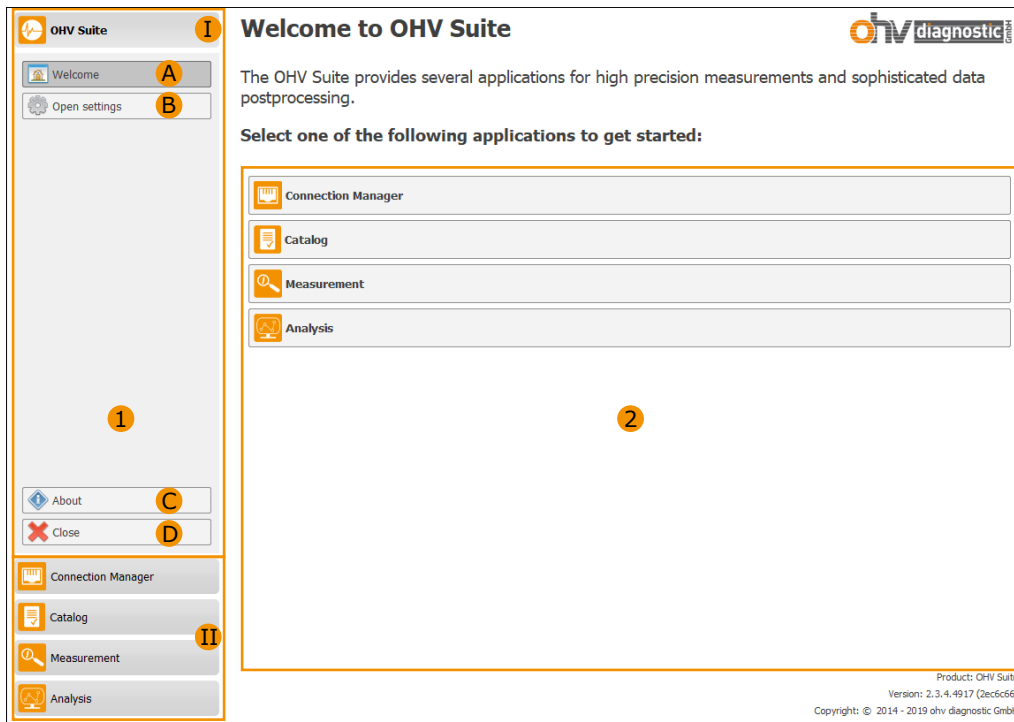

Figure A.2: Start screen (marked important information)
After starting of OHV Suite software the start screen with the main application ① is shown (cf. Figure A.2).
The settings could be reached by using the **B** (cf. Figure A.2) button. The selected sub settings page is shown on the right side.